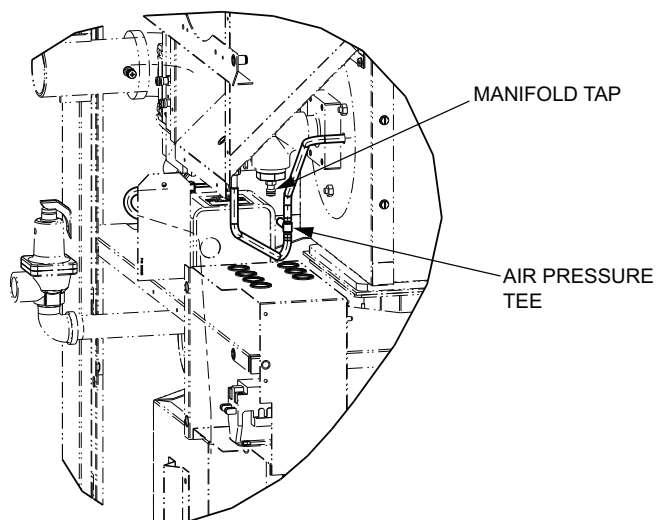

Fig. 46: Air Pressure Tee
4. Attach (1) 12" scale manometer on the fan suction pressure hose. Pull black cap from the air pressure tee as shown in Fig. 46 and connect the manometer. NOTE: Retain caps for reinstallation later.
1. Check blower suction using the manometer attached to the air pressure tee as shown in Fig. 46, with the heater firing at 100% input. The reading should be as noted in Table R for both natural and propane gas.